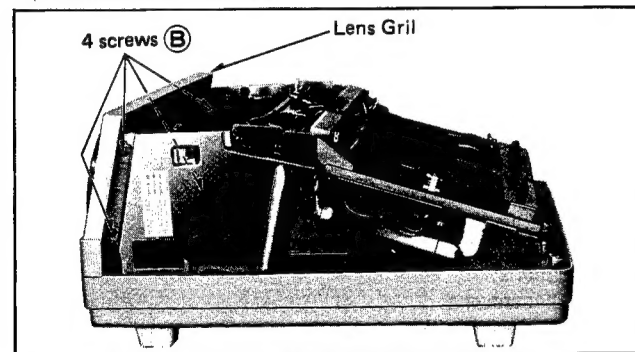

Fig. 3
- 1) Remove 4 screws (B) in fig. 3.
- 2) Remove the lens grill shown in fig. 3. (Remove 4 screws (B)).